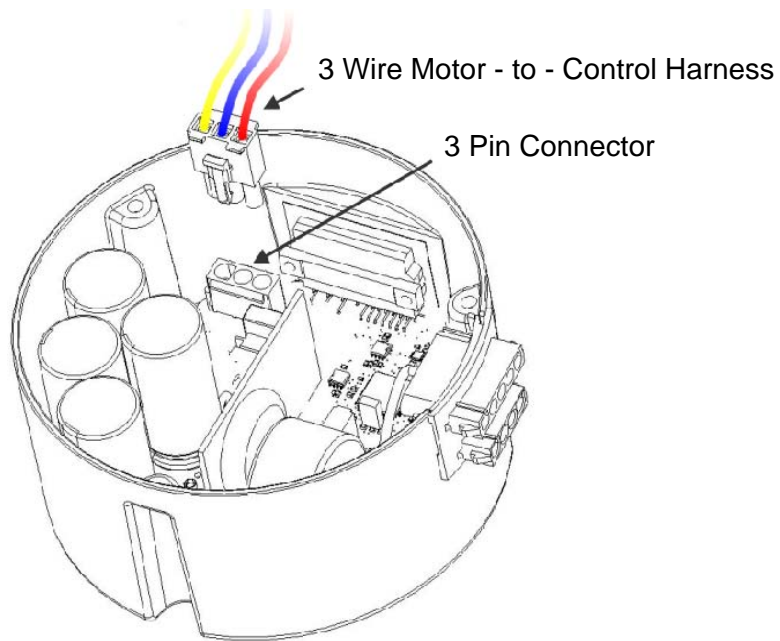

Figure 8
3. Disconnect the three-wire motor - to - control harness from the control [Figure 8] and remove control unit. Inspect for bent, damaged, or recessed wires and terminals inside of connector.